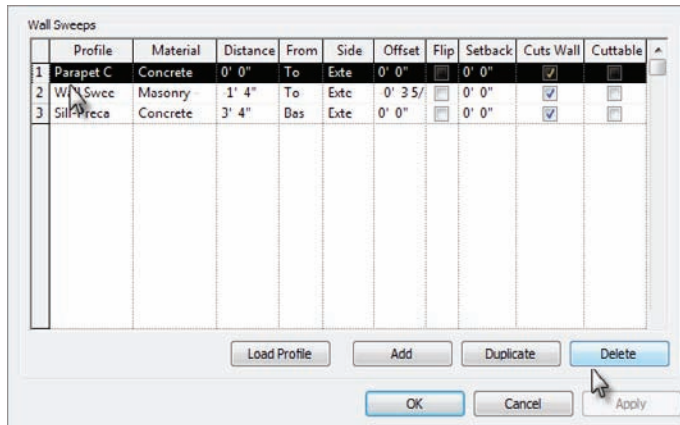

FIGURE 7.22 Deleting the Parapet Cap sweep
9. In the Wall Sweeps dialog box, you will see three sweeps. The top sweep is the parapet cap. Select sweep 1 (Parapet Cap), and click the Delete button, as shown in Figure 7.22.